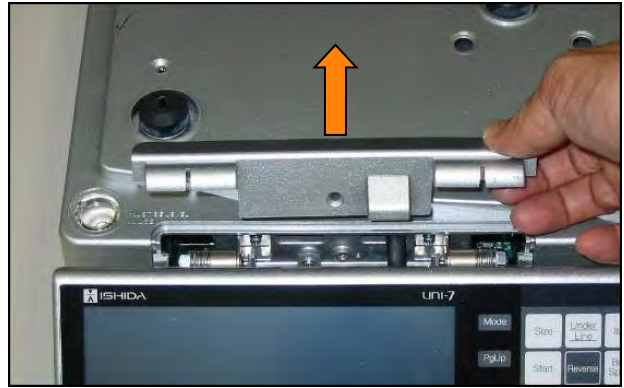

Figure 17. Remove Hinge Cover
- d. Move the keyboard down as far as possible and remove the hinge cover. See Figures 17.